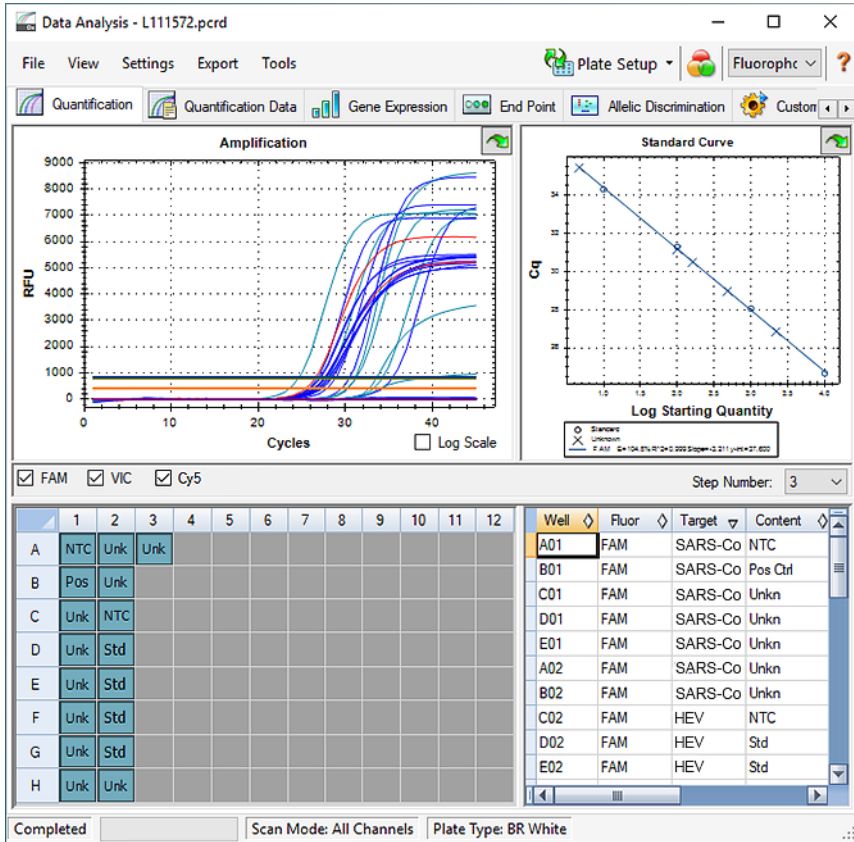
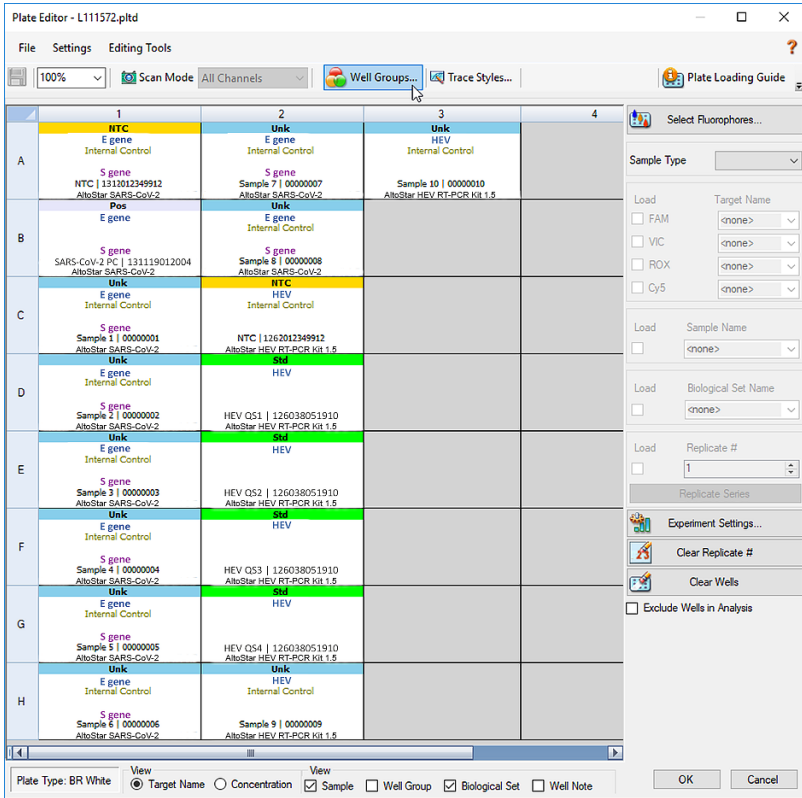
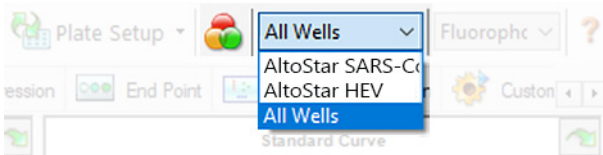

Figure 29: Data Analysis window
Figure 30: Plate Editor dialog
Figure 34: Well Group button and Well Group drop-down menu
At the end of the PCR Run the **Data Analysis** window is displayed (see Figure 29).
1. In the **Data Analysis** window (see Figure 29) click the **Plate Setup** button in the tool bar and select **View/Edit Plate**. The **Plate Editor** dialog is displayed (see Figure 30).
In the **Data Analysis** window (see Figure 29) ensure to select the **Well Group** of the AltoStar® SARS-CoV-2 RT-PCR Kit 1.5. Therefore, click on the **Well Group** drop-down menu right next to the **Well Group** button (see Figure 34) of the toolbar. Do not use the “All Wells” **Well Group**.
1. In the Data Analysis Window (see Figure 29) ensure to select the **Well Group** of the AltoStar® SARS-CoV-2 RT-PCR Kit 1.5. Therefore, click on the **Well Group** drop-down menu right next to the **Well Group** button (see Figure 34) of the toolbar.
2. At the left side of the **Data Analysis** window tick only the **FAM** checkbox for the E gene detection channel (see Figure 29).
3. In the menu bar of the **Data Analysis** window click **Settings** → **Baseline Threshold...** to open the **Baseline Threshold** dialog (see Figure 34).
1. In the Data Analysis window (see Figure 29) ensure to select the **Well Group** of the AltoStar® SARS-CoV-2 RT-PCR Kit 1.5. Therefore, click on the **Well Group** drop-down menu right next to The **Well Group** button (see Figure 34) of the toolbar.
1. In the Data Analysis window (see Figure 29) ensure to select the **Well Group** of the AltoStar® SARS-CoV-2 RT-PCR Kit 1.5. Therefore, click on the **Well Group** drop-down menu right next to the **Well Group button** (see Figure 34) of the toolbar.
1. In the Data Analysis window (see Figure 29) ensure to select the **Well Group** of the AltoStar® SARS-CoV-2 RT-PCR Kit 1.5. Therefore, click on the **Well Group** drop-down menu right next to the **Well Group** button (see Figure 34) of the toolbar.